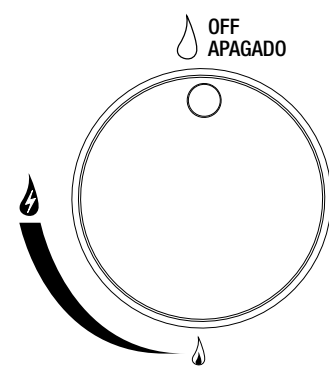

Figure 3
2. Make sure control knobs are in the "OFF" position (Figure 3).
3. All control knobs must be in the 🔥 OFF position (Figure 3).
3. Control knob must be in the 🔥 OFF position (Figure 3).